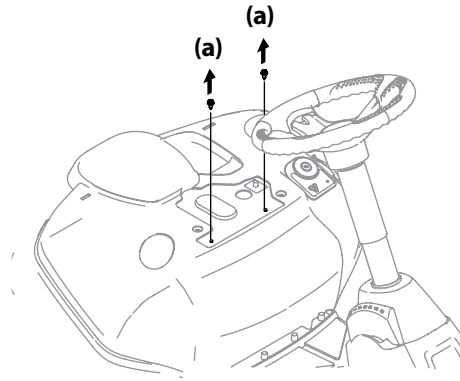

Figure 2-5
- Remove the two self-tapping bolts (a) factory installed on the rider. See Figure 2-5.